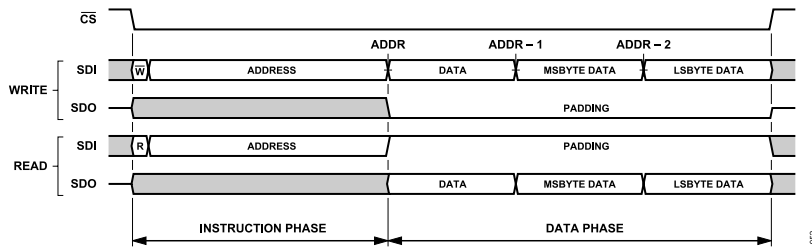
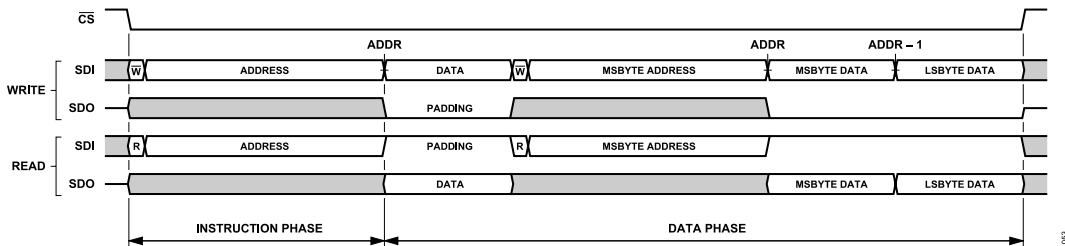
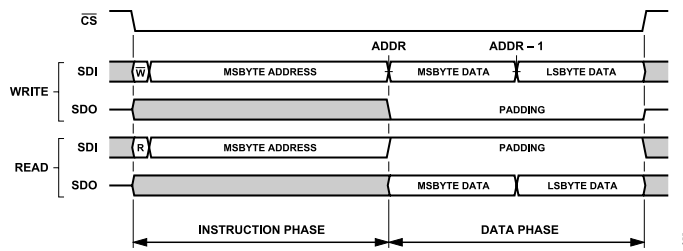
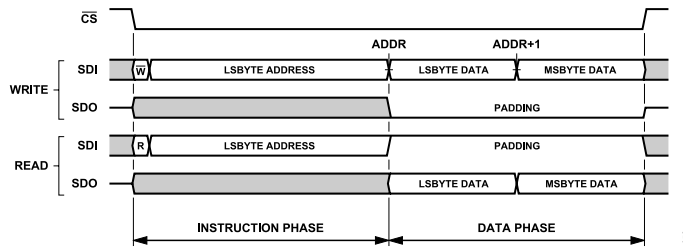

Figure 54. Interface Access Example, Default Interface Configuration, Streaming Mode (ADDR_ASCENSION = 0)
Figure 55. Interface Access Example, Single Instruction Mode (SINGLE_INST = 1), All Other Interface Options Default
Figure 57. Single Instruction Format, ADDR_ASCENSION = 0 (Descend), STRICT_REGISTER_ACCESS = 1 (Enabled)
Figure 58. Single Instruction Format, ADDR_ASCENSION = 1 (Increment), STRICT_REGISTER_ACCESS = 1 (Enabled)
Figure 54 illustrates the generic SPI frame formatting for a serial transaction using the default interface configuration. In this example, a portion of the configuration register space consisting of a byte-wide register and a multibyte register is accessed. The address for the byte-wide register resides in the most significant address (ADDRESS) and the most significant byte of the multibyte register resides in the least significant address of the register segment. By default, the ADDR_ASCENSION property is set to descending, indicating that the address for the most significant register is passed to the host controller during the instruction phase. Depending on the selected operation, the instruction word
In single instruction mode (SINGLE_INST = 1), the memory access controller requires an instruction phase to transmit for each register accessed in a given SPI frame as illustrated in Figure 55. This mode is useful when access to nonadjacent sections of the register space is required in a given SPI frame. Note that, the same access flexibility can be achieved in stream mode by initiating a new SPI frame for each unique register access.
The address ascension selection (ADDR_ASCENSION) bit, as described in previous sections, determines how the internal interface address pointer is updated for each byte of data transmitted to the AD4080 in streaming mode (SINGLE_INST = 0). If using single instruction mode (SINGLE_INST = 1), each register is directly addressed through its own instruction phase as illustrated in Figure 55, and thus, the address pointer is not updated. Regardless of the setting for SINGLE_INST, the ADDR_ASCENSION bit directly impacts the formatting of the SPI frame in terms of selection of the instruction phase starting address and byte order of the data phase payload. This impact is described in greater detail in the Strict Access Selection and Multibyte Registers section as much of the data formatting is dependent on this interface configuration selection. The ADDR_ASCENSION selection bit is located in the Interface Configuration A register (see the Interface Configuration A Register section, Address 0x00).
As indicated in Figure 57, the address counter, by default, automatically decrements (ADDR_ASCENSION = 0) such that the most significant byte of the multibyte register is accessed first, followed
As an extension of this concept, when STRICT_REGISTER_ACCESS = 1, any SPI frame that accesses a multibyte register as the first entity in the data transfer must correctly set the starting address in the instruction word to correspond to the ADDR_ASCENSION selection. In the case that the address counter automatically decrements (ADDR_ASCENSION = 0), the starting address is assigned to the register address for the least significant byte of that multibyte register, and conversely, if configured to increment automatically, the starting address must be set to the register address for the most significant byte. As a result of the change to ADDR_ASCENSION from automatic address decrement (0) to automatic increment (1), Figure 54 and Figure 55 will change as illustrated in Figure 57 and Figure 58 to accommodate the changes in data phase byte order and instruction phase multibyte register start address.